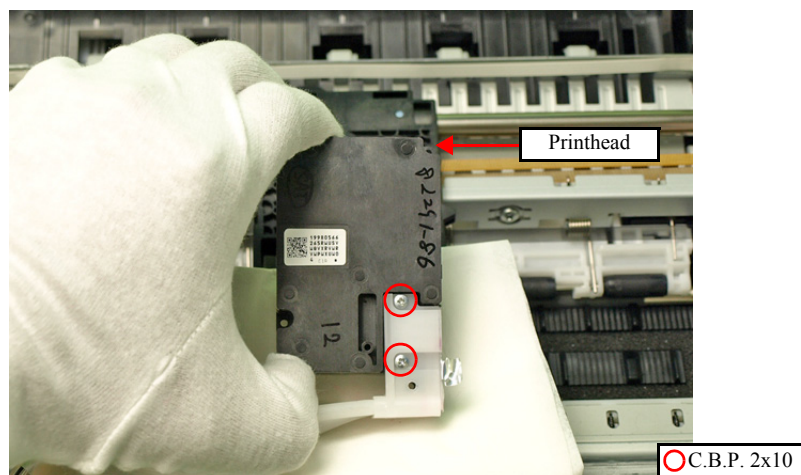

Figure 4-57. Removing the Printhead (3)
- Make sure not to touch the joint point of the Printhead and the Ink Supply Tube Assy. (See Fig. 4-57.)